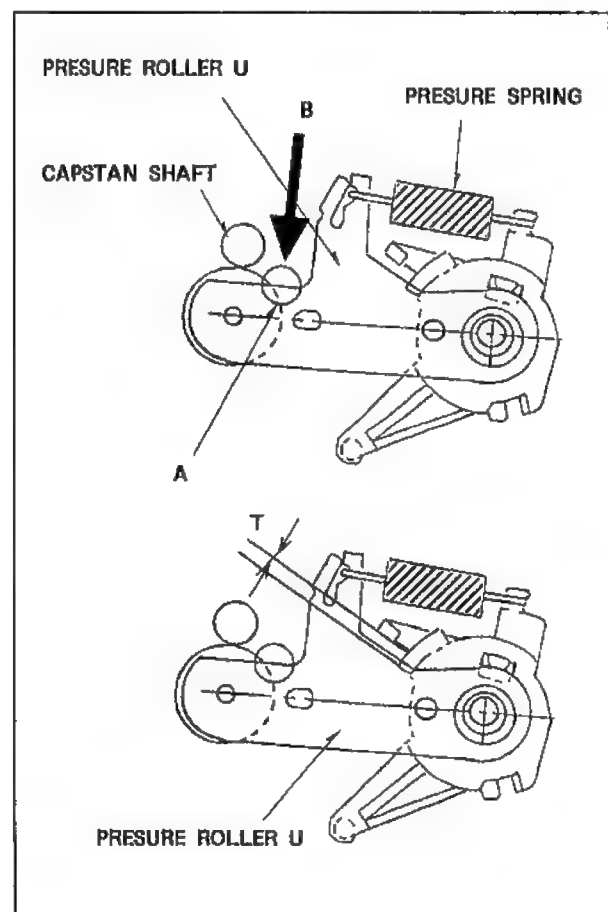

Fig.M32
2. Set the Fan type tension gauge to point (A) and push to direction indicated by the arrow (B) as shown in Fig.M32.